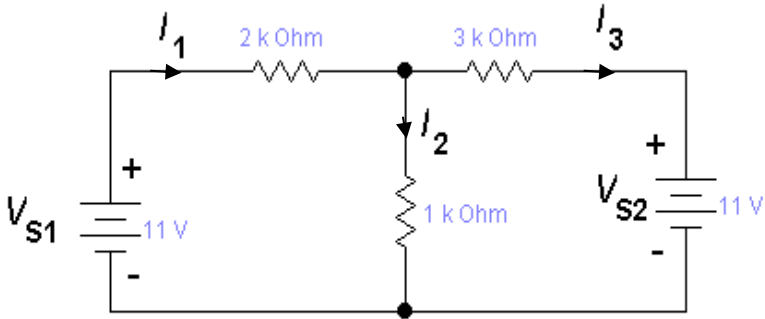

FIGURE 22-1
BACKGROUND: The Superposition Principle allows us to calculate the combined effects of a multisource circuit by looking at the individual effects of each source acting alone, then summing them. Particular attention must be paid to current directions and voltage polarities when applying superposition. The experiment uses a circuit with two voltage sources, V_{S1} , and V_{S2} (see Figure 22-1). The three currents I_1 , I_2 , and I_3 can be calculated by taking the components due to V_{S1} acting alone, then V_{S2} acting alone, and adding them together. You will recall that the source not being considered is to be killed or replaced with its internal resistance. This is the same as replacing it with a short circuit.
1. For the circuit in Figure 22-1, use the Superposition Principle to calculate the components of I_1 , I_2 and I_3 due to each source acting alone, and record your results in the table of calculated data, Table 22-1. Note that I_{11} is the component of I_1 due to V_{S1} , I_{12} is the component of I_1 due to V_{S2} , etc.
3. Connect the circuit of Figure 22-1. Remove power supply V_{S1} and replace it with a short circuit. Then measure the currents I_{11} , I_{21} , and I_{31} and record them in the table of measured data, Table 22-2, in the appropriate column.
1. With element values as in Figure 22-1, if the source V_{S1} were made equal to 22 V, then
5. With values as in Figure 22-1, calculate the value to which V_{S1} must be reduced in order to force the current I_1 to equal zero.